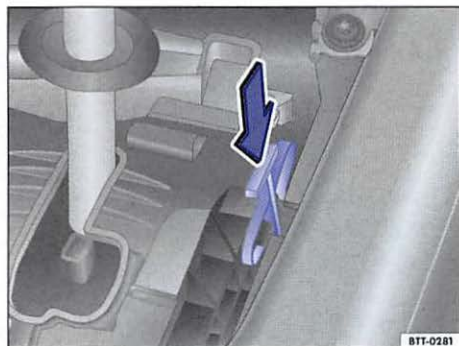

Fig. 153 Releasing the selector lever lock.
- Push the release lever $\Rightarrow$ fig. 153 in the direction of the arrow and hold it in this position.